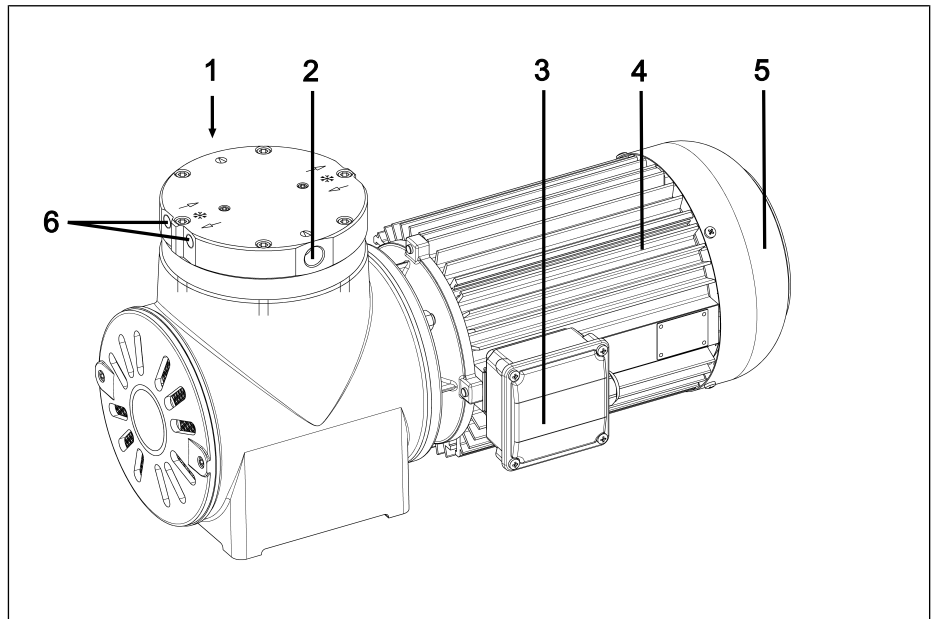

Fig. 1 Diaphragm pump N1200
2. Fasten the carrying strap between compressor housing and motor (Fig. 1, see Fig. 5).